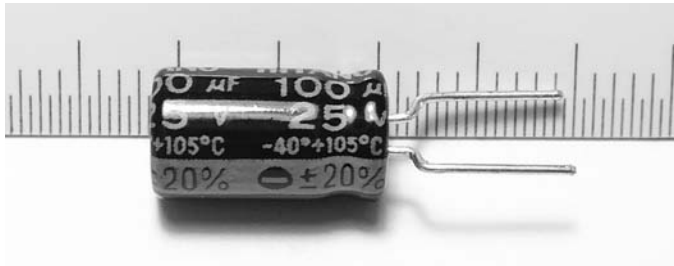

Figure 4-14: Electrolytic capacitor
*Electrolytic capacitors*, like the one shown in Figure 4-14, are physically larger than ceramic types, offer increased capacitance, and are polarized. A marking on the cover shows either the positive (+) side or negative side (-). In Figure 4-14, you can see the stripe and the small negative (-) symbol that identifies the negative side. Like resistors, capacitors also have a level of tolerance with their values. The capacitor in Figure 4-14 has a tolerance of 20 percent and a capacitance of 100  $\mu\text{F}$ .